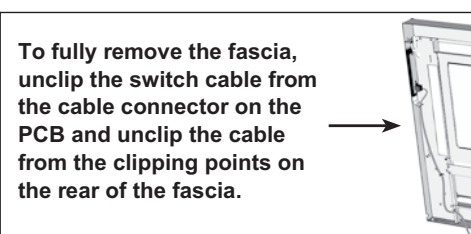

FIG 19
3. To fully remove the fascia, unclip the switch cable from the PCB connector and unclip the cable from the clipping points. The cable is routed through a plastic grommet which will have to be removed from the base panel. Refer FIG 19.
4. To fully remove the fascia, unclip the switch cable from the PCB connector and unclip the cable from the clipping points. The cable is routed through a plastic grommet which will have to be removed from the base plate. Refer FIG 19.